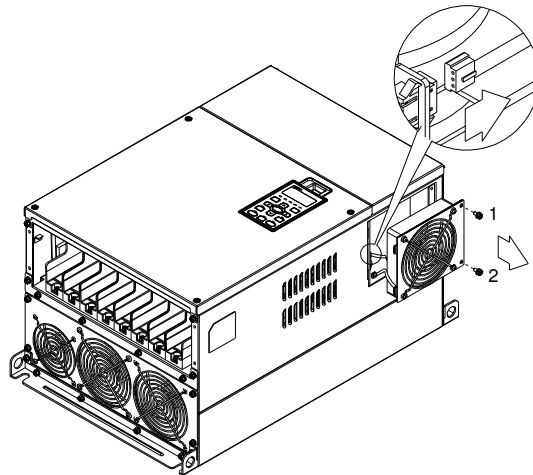

Figure 3
- Loosen screw 1~2 (figure 3) and disconnect fan power and pull out the fan. (As shown in the enlarged picture 3)